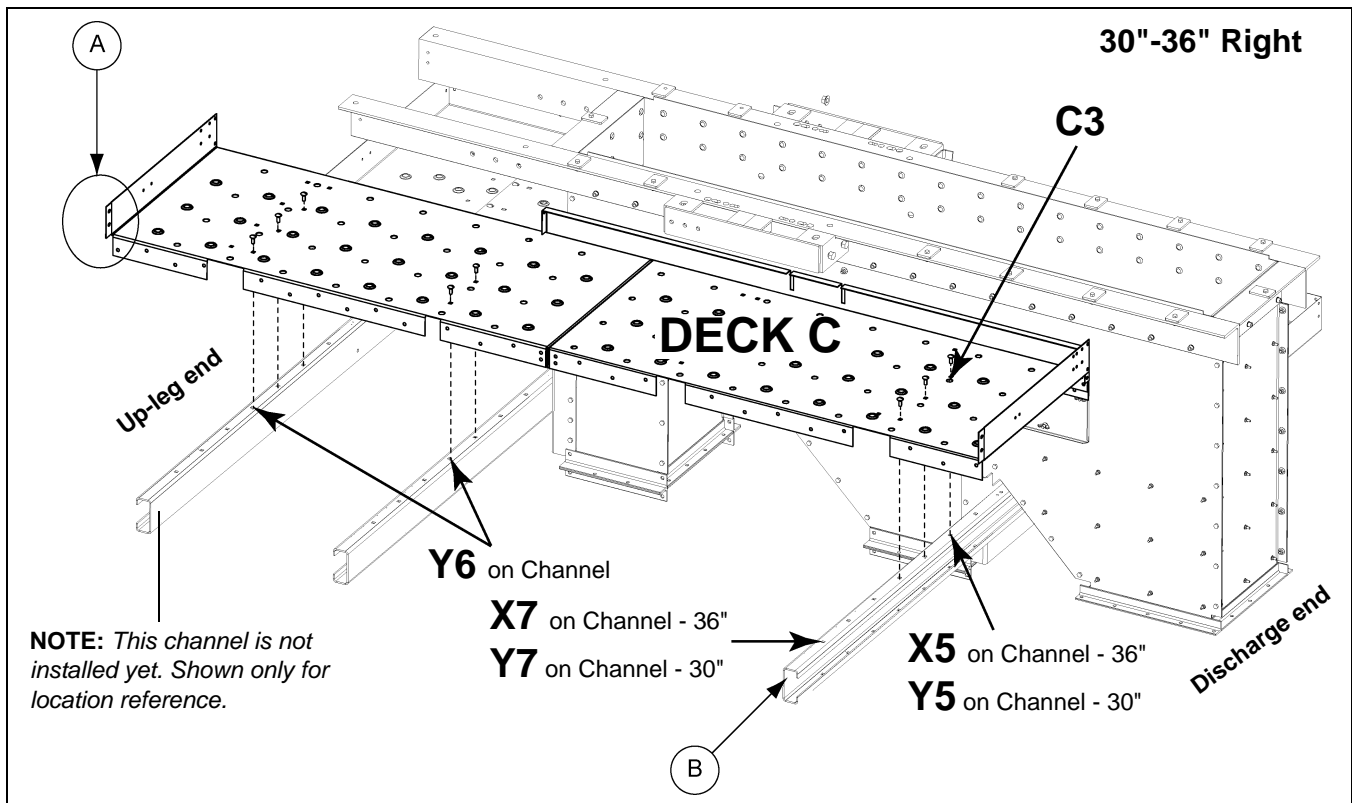
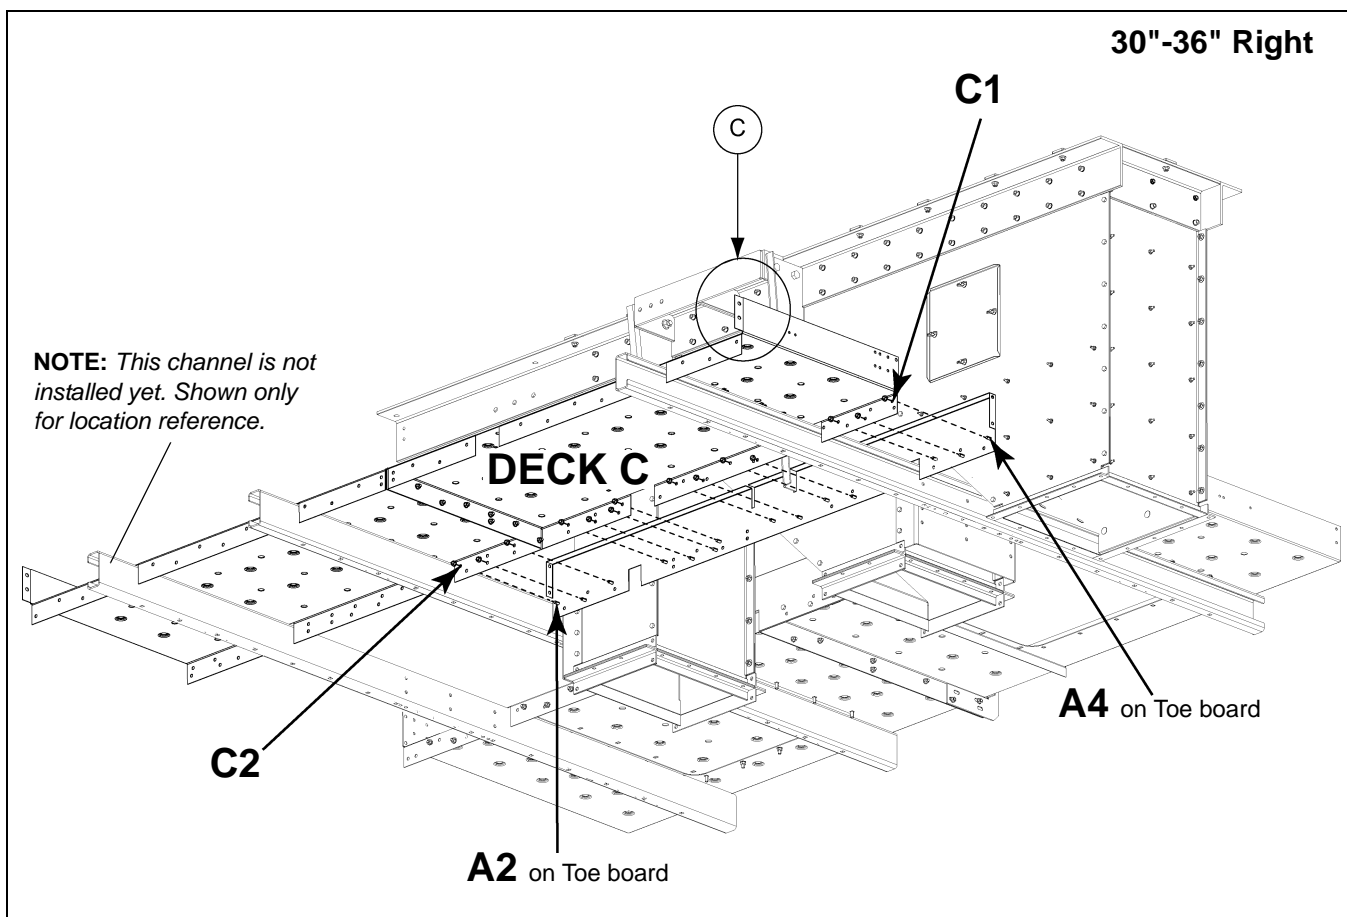

Figure 8J Deck C to Cross Deck Support Channels
Figure 8K Underside View of Deck C to Toe Board
1. Locate the pre-assembled Deck C. This deck consists of two (2) planks.
3. Make sure the extended kick plate flange of Deck C is away from the lower head assembly. *(See Figure 8J below and Figure 8K on Page 61.)*
5. Connect cross deck support channel and Deck C using 3/8" x 1" carriage bolts (S-3585) with flange nuts (S-10028). Connect all holes between channel and deck. *(See Figure 8J.)*